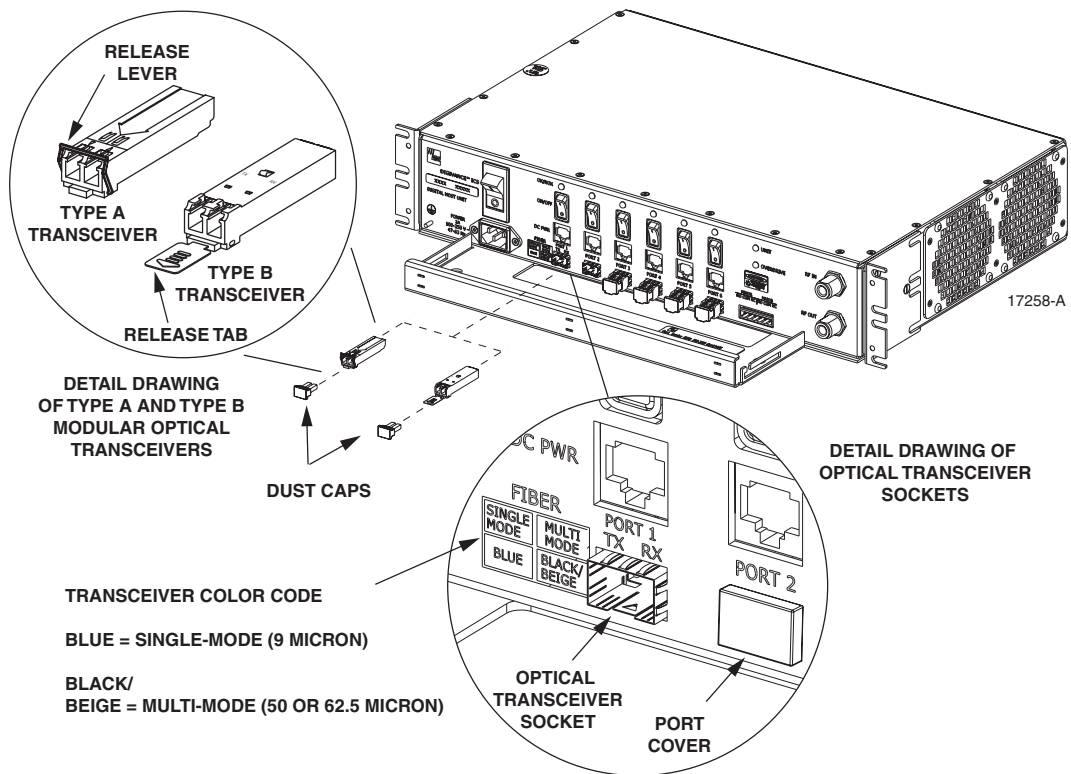

Figure 18. Optical Transceiver Installation
2. Locate the appropriate transceiver socket on the front of the DHU as shown in Figure 18.
3. Select the optical transceiver that corresponds to the type of fiber (single- or multi-mode) required for the installation. The color of the transceiver (see transceiver color code in Figure 18) corresponds to the fiber type.
4. Remove the transceiver from the anti-static packaging and orient for installation (see Figure 18.).
► **Note:** Two types of optical transceivers, type A and type B, are available. Both types provide the same functionality. On the type A optical transceiver, the release lever (see Figure 18) must be closed for installation.